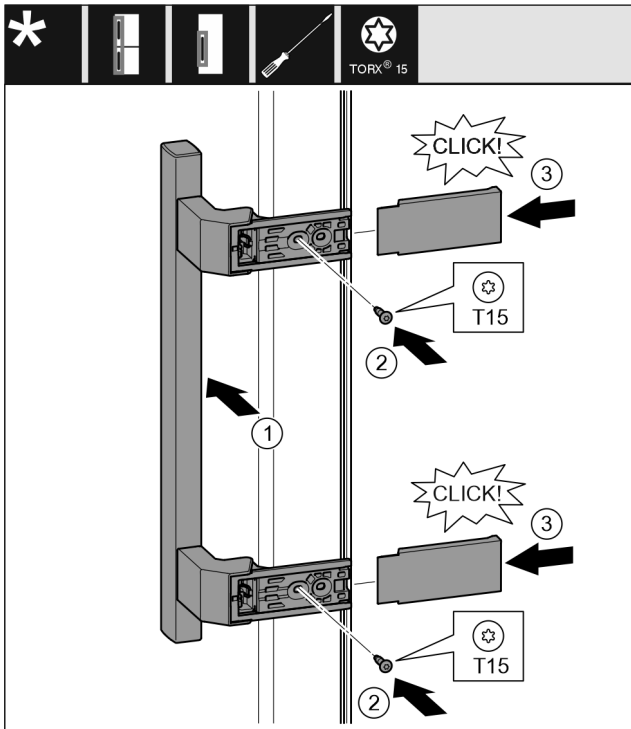

Fig. 20
- ▶ Attach the handle on the opposite side. Fig. 20 (1)
- ▶ Tighten screws with screwdriver T15. Fig. 20 (2)
- ▶ Place the covers on the side and push them on. Fig. 20 (3)